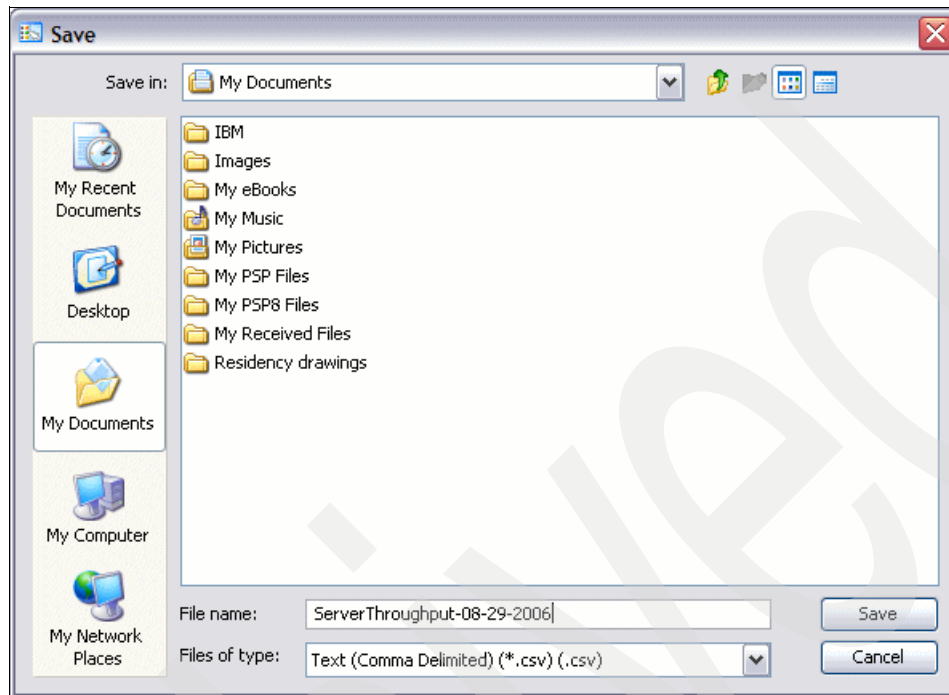

Figure 7-12 Selecting location to save report
2. You are presented a panel where you can select the folder in which to save the expected report, as is shown in Figure 7-12. After selecting the folder, click **Save**. This saves the report as a .csv file in selected folder.